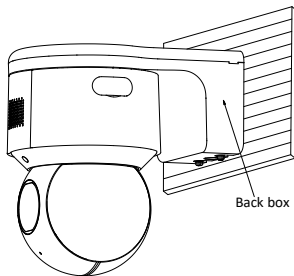

Figure 2-69 Connect the cables
6. Put cables in the back box, then close the decorative cover as shown in Figure 2-69.